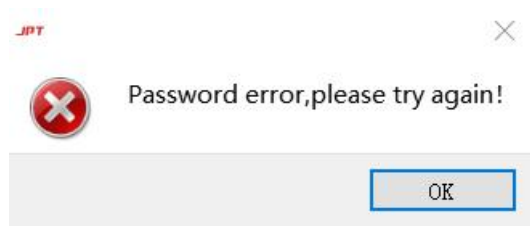

Figure 10
4) The factory password is "0-9" 6 random numbers. Click the "Enter" button to enter the password. When the password is incorrect, the following prompt appears, as shown in Figure 10.
Figure 10 adapter card